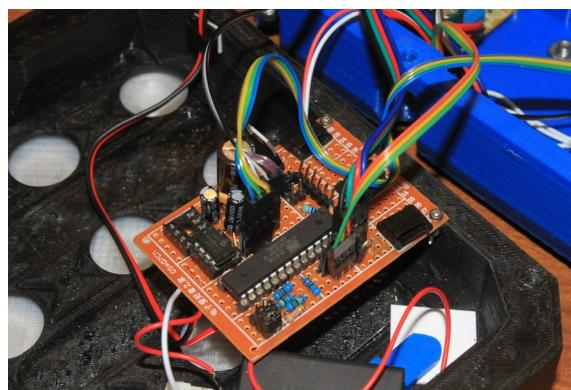

Figure 18: Control Board connected
38. Measure the input voltage at the batteries as shown in figure 18. Using the encoder wheel, adjust the voltage displayed to match the input voltage.